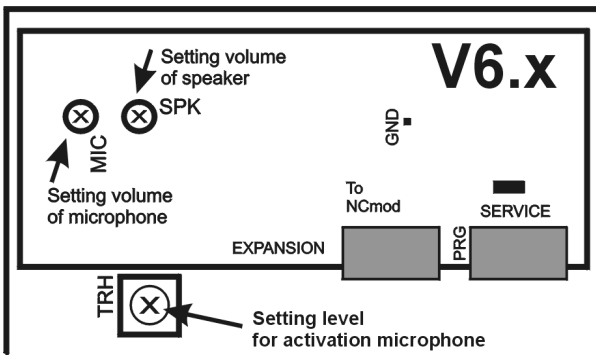

Fig. 2 Rear view of setting parts in version V6.x
**For newer version board V6.x (fig.2) :**